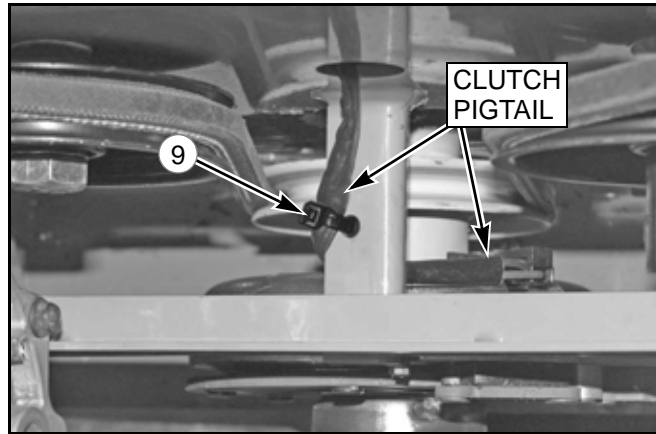

FIG. 4
2. Clutch pigtail to clutch anchor tie strap (FIG. 4).
2. Clutch pigtail to clutch anchor tie strap FIG. 4.